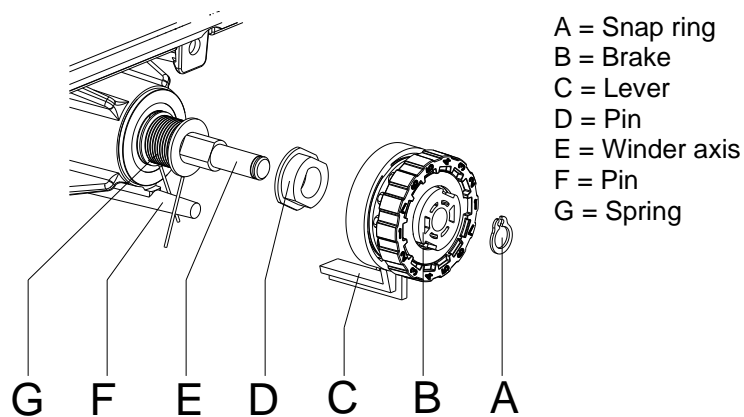

Figure 11
5. Ensure that the pin (D, Figure 11) remains on the winder axis when pulling the brake off. Reattach the pin to the winder axis if it has been pulled off. The axis profile is shaped in such a way that the pin only fits on the winder axis in one way.